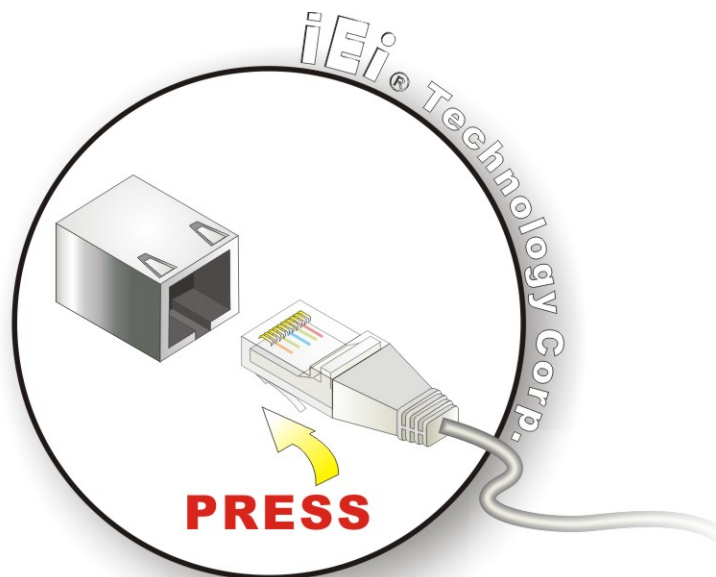

Figure 5-19: LAN Connection
Step 2: **Align the connectors.** Align the RJ-45 connector on the LAN cable with one of the RJ-45 connectors on the WAFER-945GSE. See **Figure 5-19**.